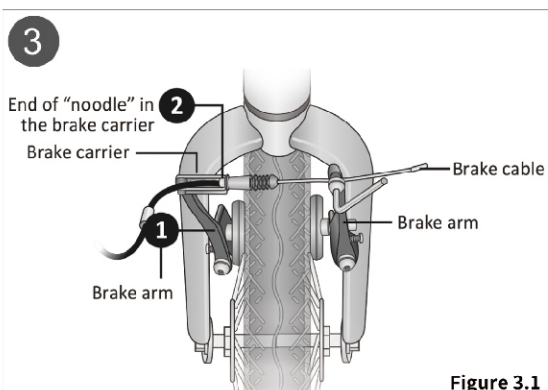

Figure 3.1
- ① Squeeze the two brake arms together until the brake pads touch the wheel rim. Figure 3.1
- ② With your other hand, pull on the brake cable and insert the end of the "noodle" into the brake carrier.